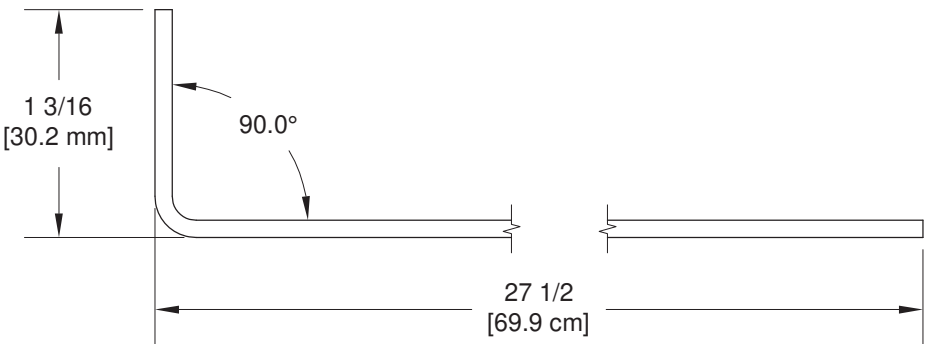

FIGURE 2: MAKING THE F-01201J-1 HINGE PIN
Step 2: Make the hinge pins as shown in Figures 2 through 5. Use the hinge pin material left over from Sections 23iS/U and 29iS/U. The hinge pin material removed during fabrication of the F-12115-1 in Figure 6 can also be used.